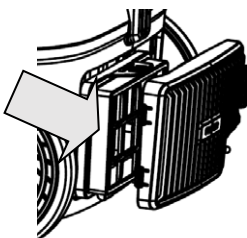

Fig 13
3. The exhaust filter and motor protection filter should be cleaned or exchanged after it is dirt. (Fig 13, 14)